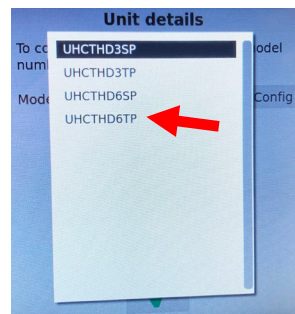

Figure 17
- g) Select the correct configuration for the cabinet configuration (see Figure 17). Choose UHCTHD3SP for 3-row Single Sided; Choose UHCTHD3TP for 3-row Double Sided; Choose UHCTHD6SP for 6-row Single Sided; Choose UHCTHD6TP for 6-row Double Sided.